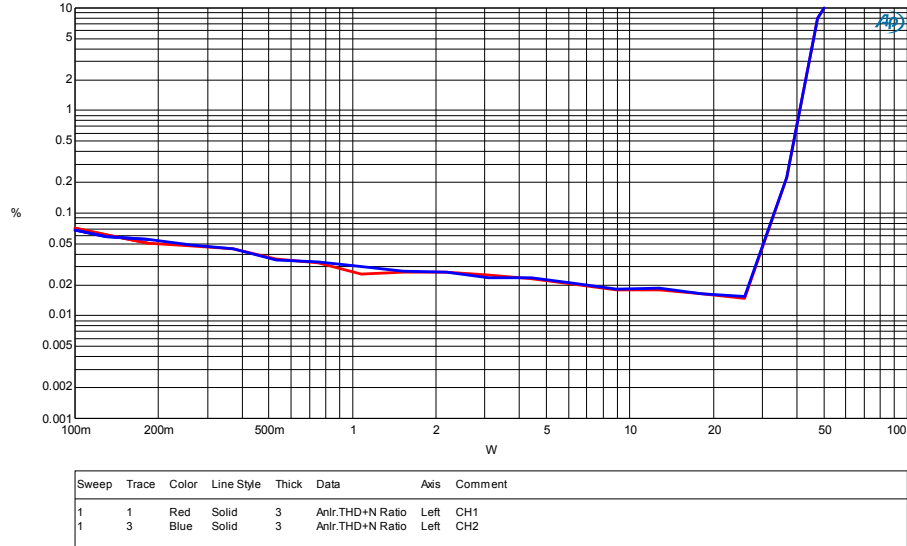

Figure 3
15. For all subsequent tests as shown on the Audio Precision graphs below (Figure 3- Figure12), the measurements are taken across J3 and J4 with an AES-17 Filter. Observe that a 1 V_{RMS} input generates an output around THD+N=1% power level.